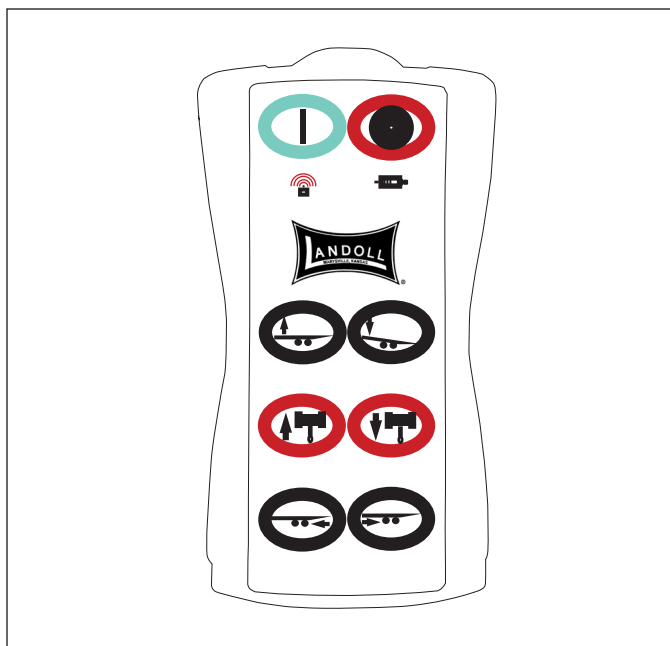

Figure 3-12: Remote Control Receiver
1. A wireless six function radio remote control is available (See Figure 3-12.)